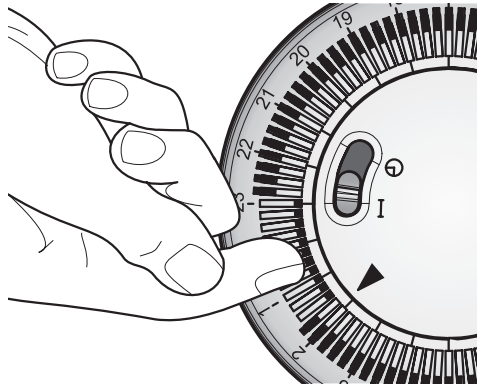

Fig. 5
1. Using your finger tip or the tip of a pencil, push in as many segments as necessary around the dial, according to the times you don't require heat – see Fig. 5. Each segment pushed in switches the heater OFF for that part of the hour. All other segments will be ON. For example, Fig. 5 shows the timer set to switch the heater OFF between 11pm and 1.45am.
Check that the clock shows the correct time of day. Set the mode slide switch to , the heater will switch ON and OFF according to the timer settings - see Fig. 5.